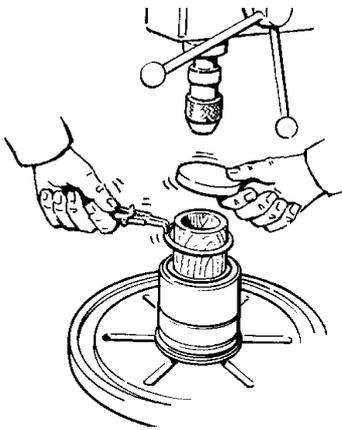

Fig. 8
2. Depress seat retainer and remove the locating rings (circlip). It may not be possible to do this manually so a pedestal drill may be used for instance, with a piece of wood to avoid damaging the seat retainer. (See Fig. 8).
5. Press down the rear seat retainer so that it is possible just to insert the locating rings (circlip) vertically. (Use a pedestal drill or similar, see Fig. 8).